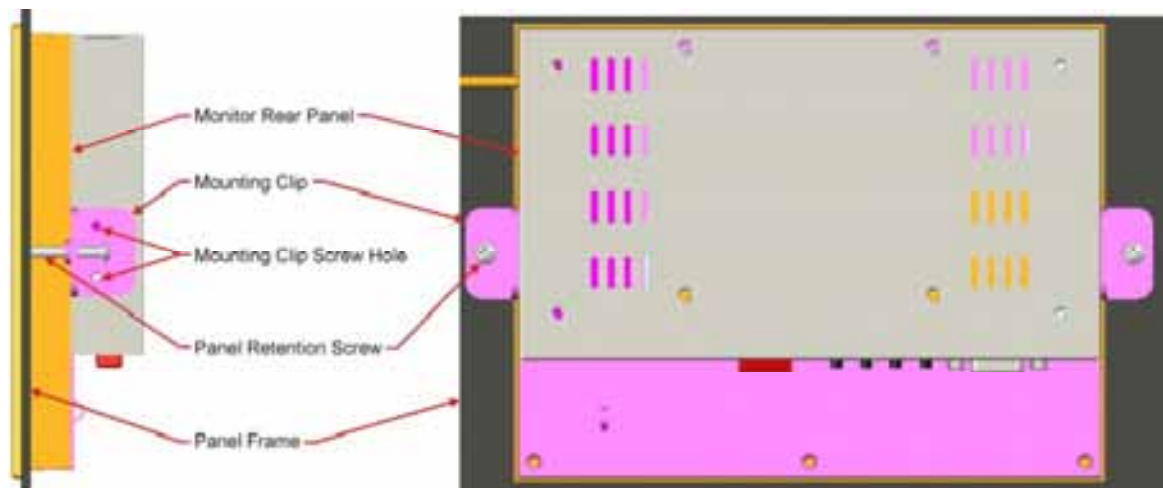

Figure 5-11: MPE 06 Panel Mounting
Step 1: Secure the panel mounting clips to either side of the monitor using the retention screws supplied in the mounting kit pack (**Figure 5-11**).
Step 2: Tighten the panel retention screws that pass through the panel mounting clips until the plastic caps at the front of all the screws are firmly secured to the panel (**Figure 5-11**).